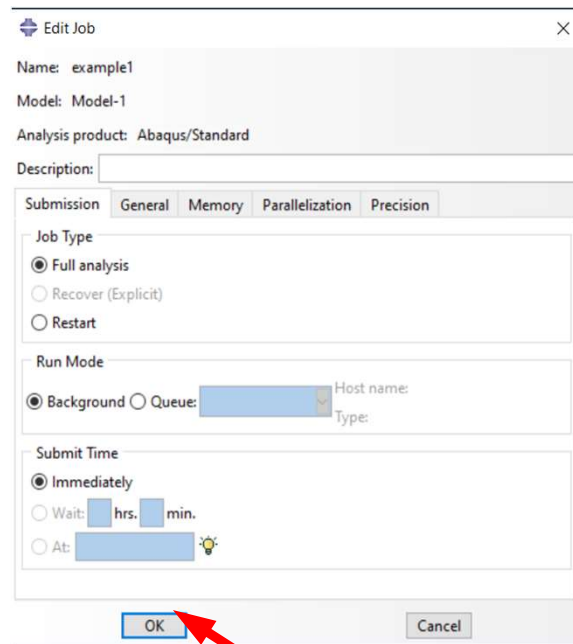

Figure 2
- In Edit Job window (Fig.2), Click “OK”